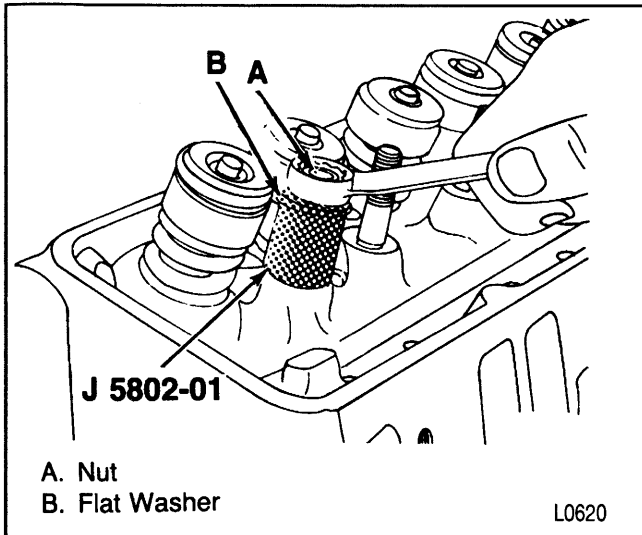

Figure 15—Removing the Rocker Arm Stud
Remove or Disconnect (Figure 15)
- C. Turn the nut to remove the stud (figure 15).